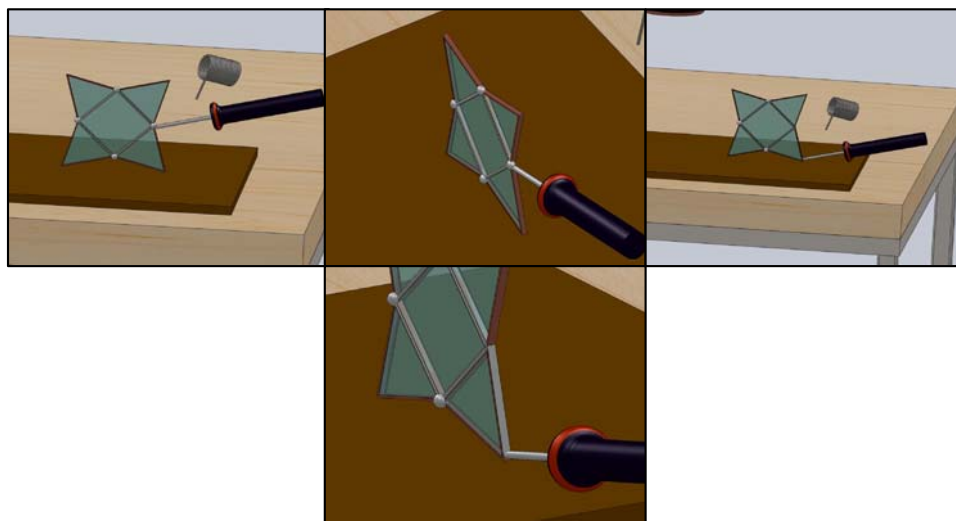

Figure 8: Use the soldering iron to guide the extra globs of solder to the edges of the piece for tinning
- A. Apply flux to all edges of the assembly and then run the iron up and down the vertical edges, smearing the excess solder over the foil edges allowing any extra to drip off as shown in Figure 8. This is called “tinning the edges”. Do not worry if it does not cover the all the edges, more solder will accumulate on the edges when the next side is soldered.